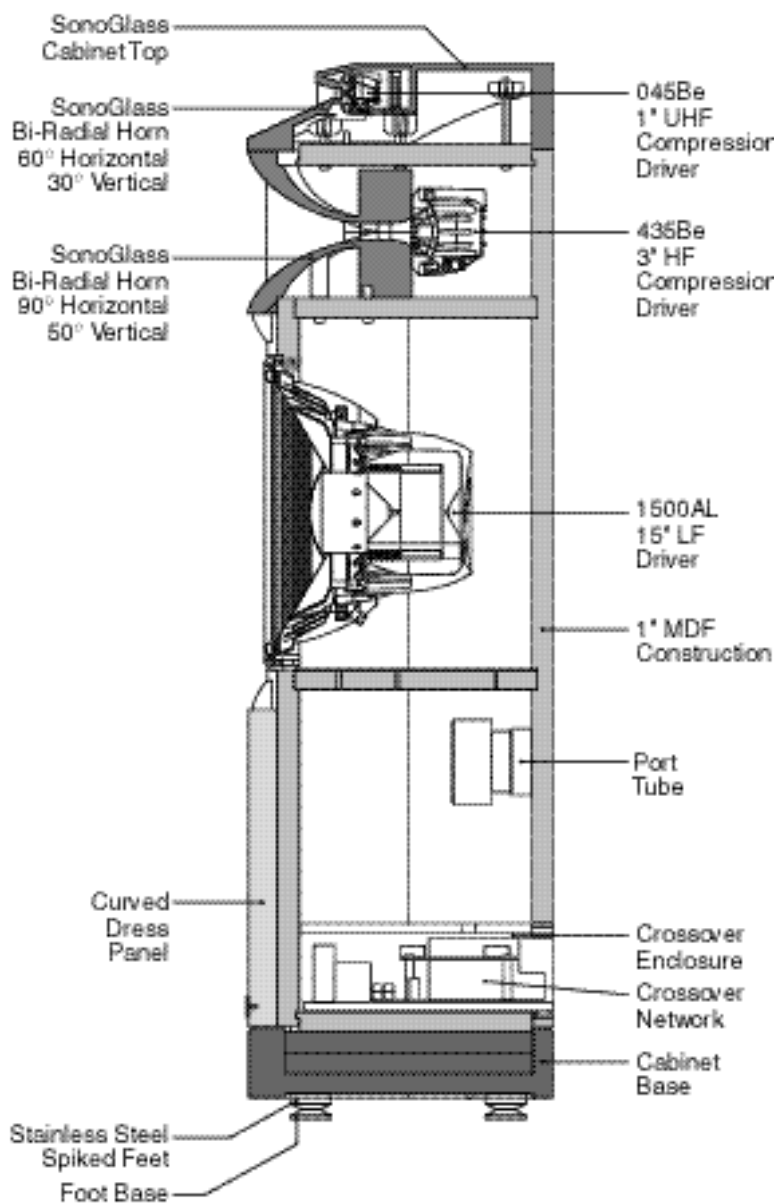

Figure 1
*See Figure 1.*
*See Figure 1*